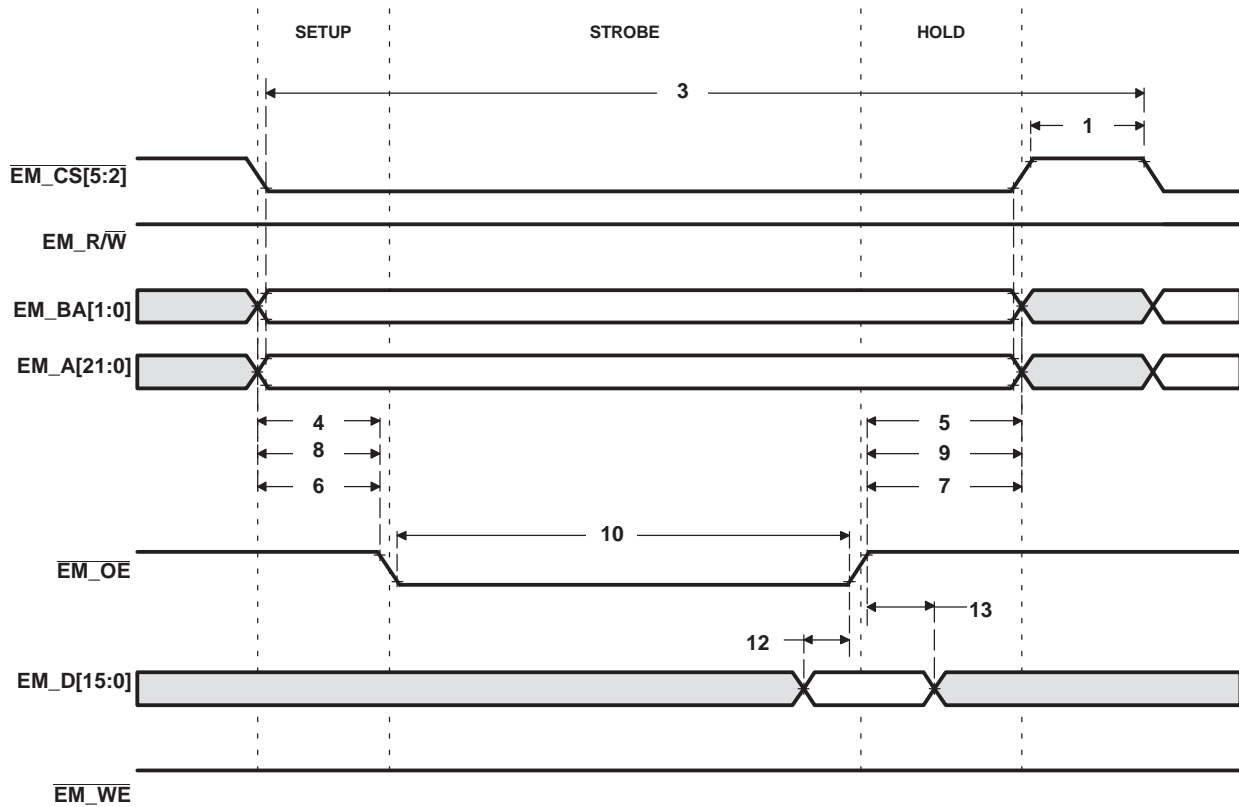
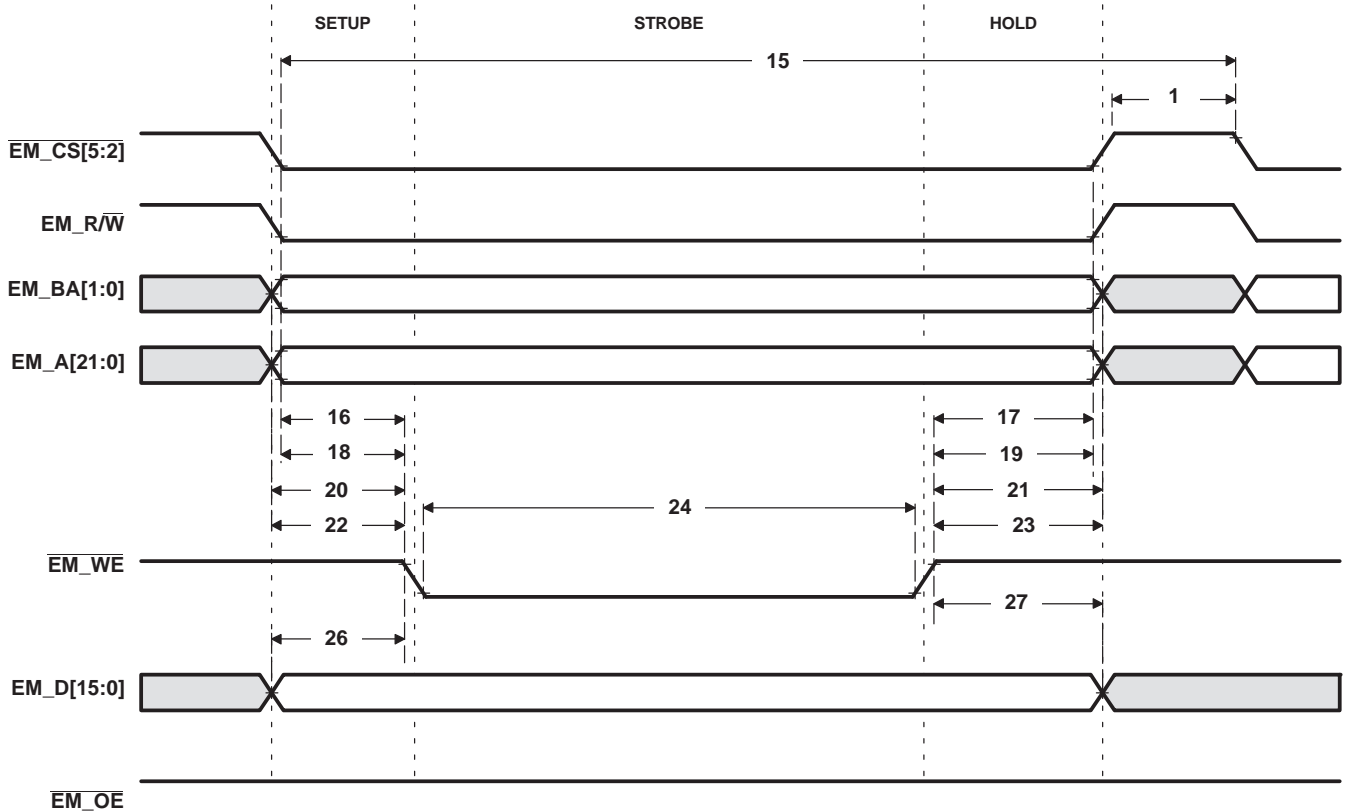

Figure 6-19. Asynchronous Memory Read Timing for EMIF
Figure 6-20. Asynchronous Memory Write Timing for EMIF
(see Figure 6-19 and Figure 6-20)
Table 6-31. Switching Characteristics Over Recommended Operating Conditions for Asynchronous Memory Cycles for EMIFA Module(1)(2) (see Figure 6-19 and Figure 6-20)
- (1) RS = Read setup, RST = Read STrobe, RH = Read Hold, WS = Write Setup, WST = Write STrobe, WH = Write Hold, TA = Turn Around, EW = Extend Wait mode, SS = Select Strobe mode. These parameters are programmed via the Asynchronous Bank and Asynchronous Wait Cycle Configuration Registers and support the following range of values: TA[3:0], RS[15:0], RST[63:0], RH[7:0], WS[15:0], WST[63:0], WH[7:0], and EW[255:0]. For more information, see the TMS320DM357 DMSoC Asynchronous External Memory Interface (EMIF) User's Guide (literature number SPRUG33).
(2) E = SYSCLK5 period in ns for EMIFA. For example, when SYSCLK1 is 540 MHz, use E = 11.11 ns.
**Table 6-31. Switching Characteristics Over Recommended Operating Conditions for Asynchronous Memory Cycles for EMIFA Module (see Figure 6-19 and Figure 6-20) (continued)**